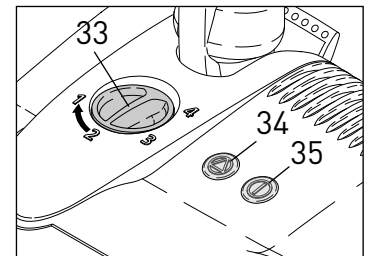

Figure 11
B. To clean delicate or hard floor surfaces with straight suction only, the power head is equipped with an on/off switch (35, figure 11). When this switch is used to turn off the brush roller, the green light will change to yellow, indicating to the user that the brush roller is not turning. Pushing the button again will turn on the brush roller and the light will turn green.
NOTE: The brush roller is off and stopped only when the machine is in an upright position and the handle is completely locked in place. If you have the machine at an angle, the brush roller will spin. Leaving the machine in a stationary position for an extended period of time while the brush roller is spinning may cause damage to your floor or carpet. You may also switch off the brush roller by pressing the on/off switch (35, figure 11) on the top of the power head.
Brush Obstruction Light & Auto Shut Off – Figure 11
The Brush Height Adjustment Feature - Figure 11
Indicator Lights - Figure 11
(35, figure 11) | Brush is on and spinning. |
(35, figure 11) | The brush roller has been switched off and the vacuum is operating with straight suction only. |
(34, figure 11) | The brush is not fully engaged in the carpet. The height adjustment should be lowered. If the height adjustment is at its lowest setting, the brush is worn and needs to be replaced. |
(34, figure 11) | The brush is blocked. Turn off the power head, disconnect it from the power source, and then remove the blockage [see page 12]. |